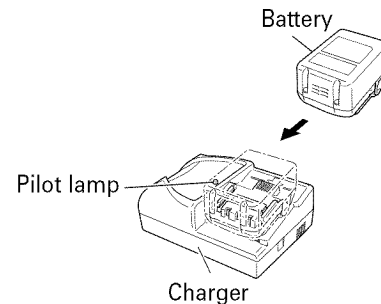

Fig. 4
2. Insert the battery into the charger. Firmly insert the battery into the charger until the line is visible, as shown in Fig. 4, 5.